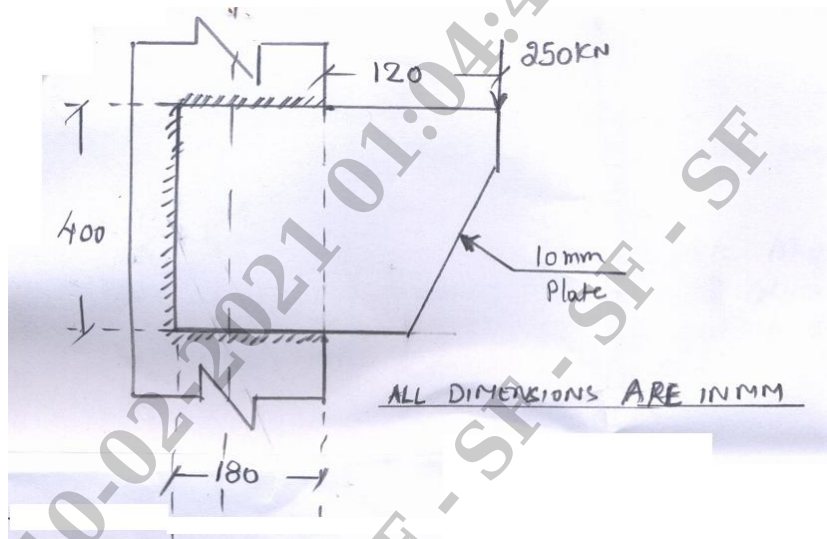

Fig. Q3 (b)
b. The 10 mm thick bracket plate shown in Fig. Q3 (b) is connected with the flange of column ISHB 300@ 577 N/m. Find the size of the weld to transmit a factored load of 250 kN. (14 Marks)